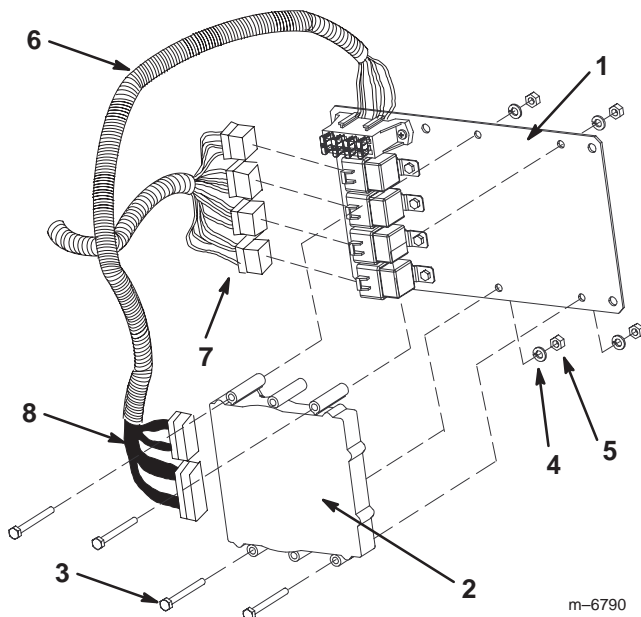

Figure 4
- Secure the ECU to the mount plate (Fig. 4), using 4 bolts (1/4 x 2-1/2 inches), 4 lock washers (1/4 inch), and 4 nuts (1/4 inch).
- Connect the relay leads on the wiring harness to the 4 relays on the mounting plate (Fig. 4).
- Connect the 2 controller leads (one long and one short) on the wiring harness to the ECU (Fig. 4).